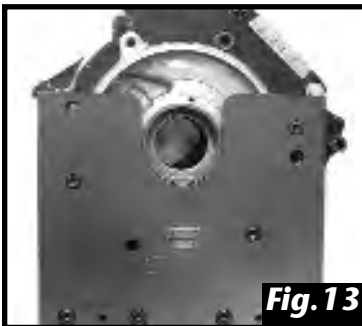

Fig. 13
15. Place the engine case in the cradle and rotate the case so either the front or rear cylinder deck is horizontal and facing up. Fig. 13.